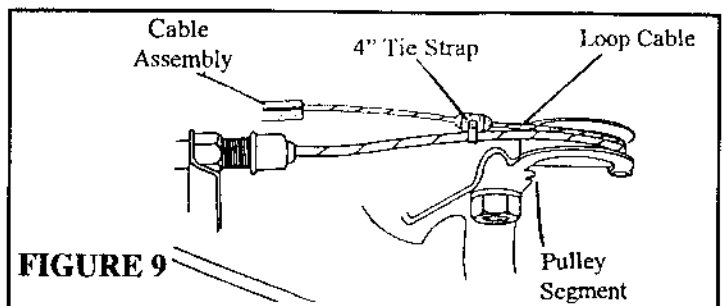

FIGURE 9
5. To secure the **Loop Cable** to the throttle cable, punch a small hole in the **Bead Chain Cover** and slide the **4" Tie Strap** through the hole and secure to the existing throttle cable. (Figure 9)